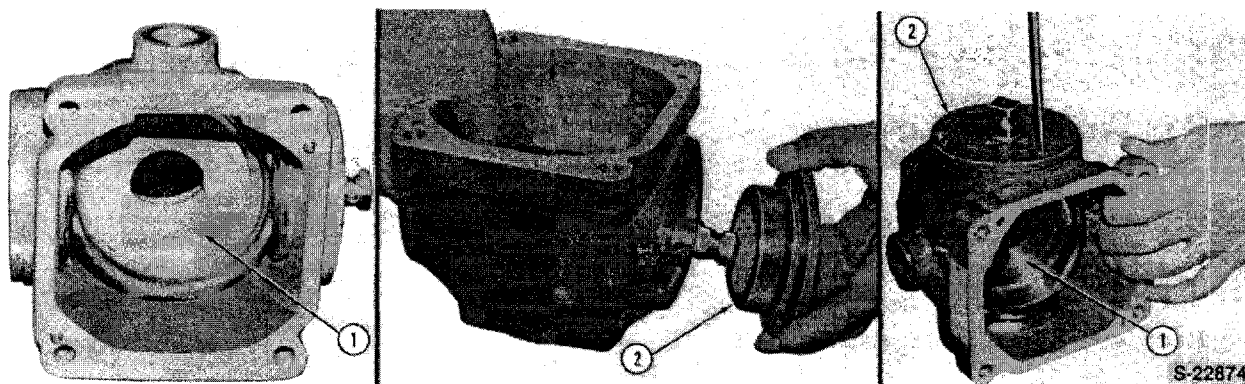

Figure 54
1. Position the variable swash plate into the case, Figure 54.